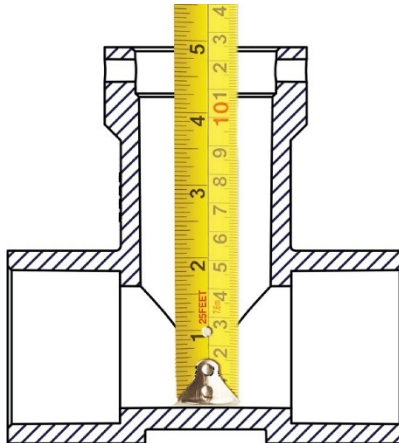

Figure 11
1. Dipstick Method (For 2 in., 3 in. and 4 in. meters only): The interior depth of the meter body indicates its size. To check, remove the old insert from the meter body and insert the end of a stiff tape measure down into the insert bore until it touches the bottom of the meter body bore. Read the depth shown on the tape measure at the top of the meter body bore. Read the depth shown on the tape measure at the top of the Tee housing (see Figure 11) and compare with dimension "D" in the specifications section (see Figure 1).